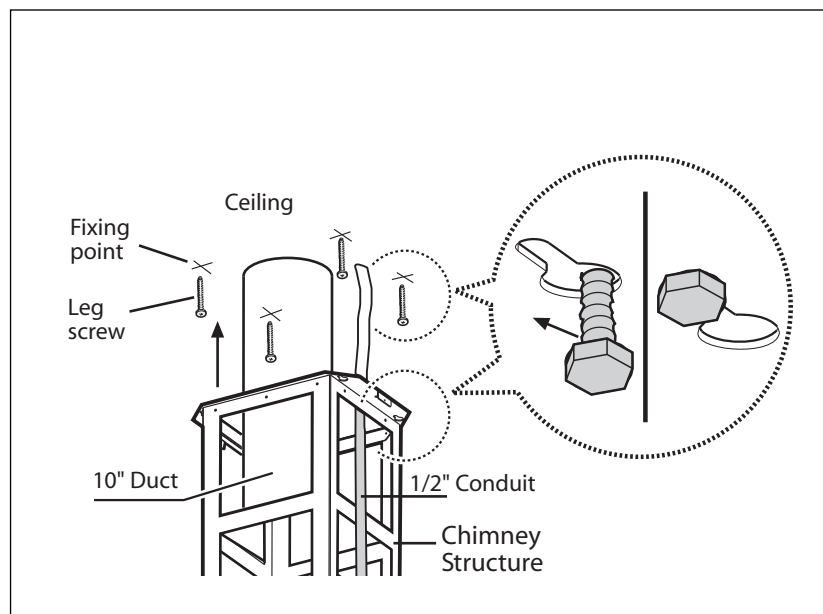

FIG.4
- b. Screw the 4 lag screws provided (see Fig. 4, do not tighten completely).
- c. Attach mounting structure to joists with the 4 lag screws provided. (see Fig. 4, keep 10" duct inside structure).
- d. Tighten the 4 lag screws, see Fig. 4.